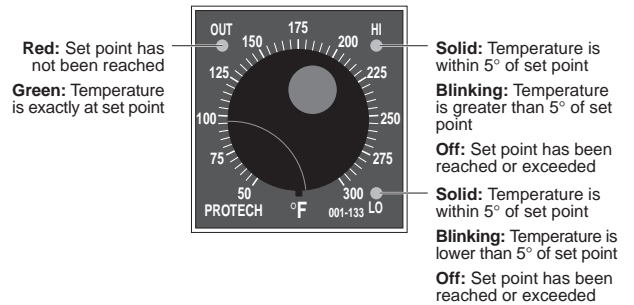

Figure 3-3: Heater Controller
8. **UPPER ROLL HEATER CONTROLLER** – Provides a readout of the temperature of the upper roll and the set-point for the desired temperature. (See Figure 3-3.)
9. **LOWER ROLL HEATER CONTROLLER**– Provides a readout of the temperature of the lower roll and the set-point for the desired temperature. (See Figure 3-3.)